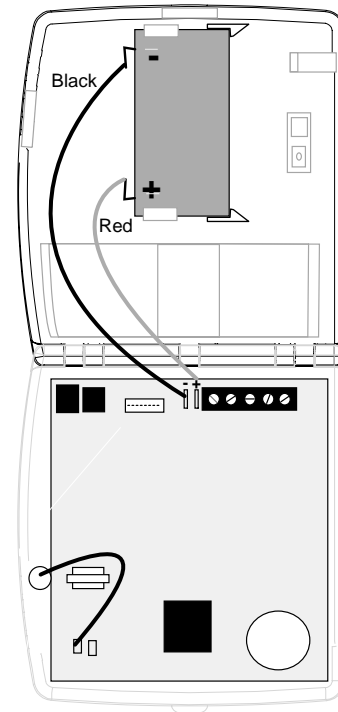

Figure 12. Connecting the Battery Leads to the Battery and Panel Terminals
3. Connect the red and black battery leads (included with panel) to the battery and panel terminals (see Figure 12).